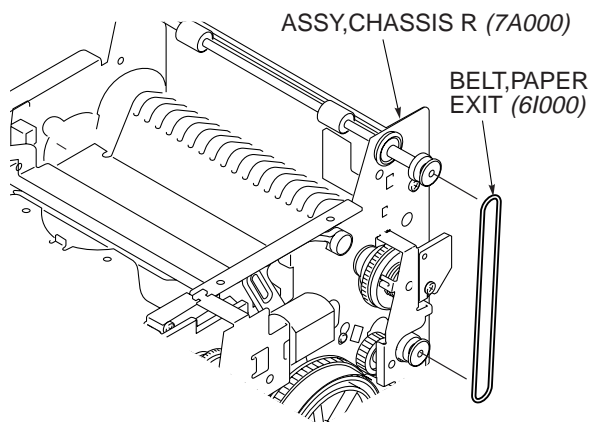

Fig. 3-2-1
(See Figs. 3-2-1 to 3-2-2)
- 1) Remove the "BELT, PAPER EXIT (6I000)". (Refer to Fig. 3-2-1.)